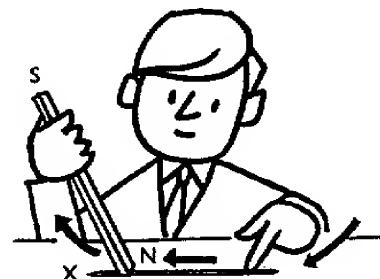

Fig. 290
Now magnetise the needle using, say, the *north pole* of an Alnico magnet (Fig. 290). If you draw the magnet's *north pole* towards X does X become a *north* or a *south* pole when the needle is magnetised? Test your answer with a compass needle. Remember that you can be sure that the needle is a magnet only if it *repels* one end of the compass.
Using this model, which pole of the atomic magnets would you expect to rotate to face X in Fig. 290? (5) Does your answer agree with experimental results? (6)